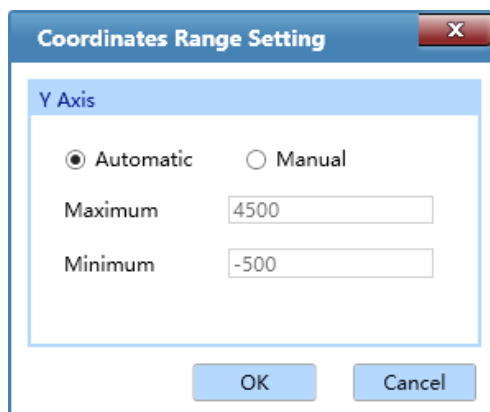

Figure D- 9.1a. Abs Quant Analysis Interface - Coordinate Range Setting
- <  **Y-axis Coordinate Adjustment** >: user can adjust the Y-axis coordinate of the amplification curve diagram. Please click <  **Y-axis Coordinate Adjustment** > icon and the coordinate range setting box will pop up automatically, as shown in figure D-9.1a. User can select **Automatic** or **Manual** option in the coordinate range setting box to set the Y-axis coordinate. If the **Automatic** option is selected, the application software will automatically adjust the Y-axis coordinate according to the detected fluorescence value; if the **Manual** option is selected, user can manually enter or use  and  keys to set the maximum